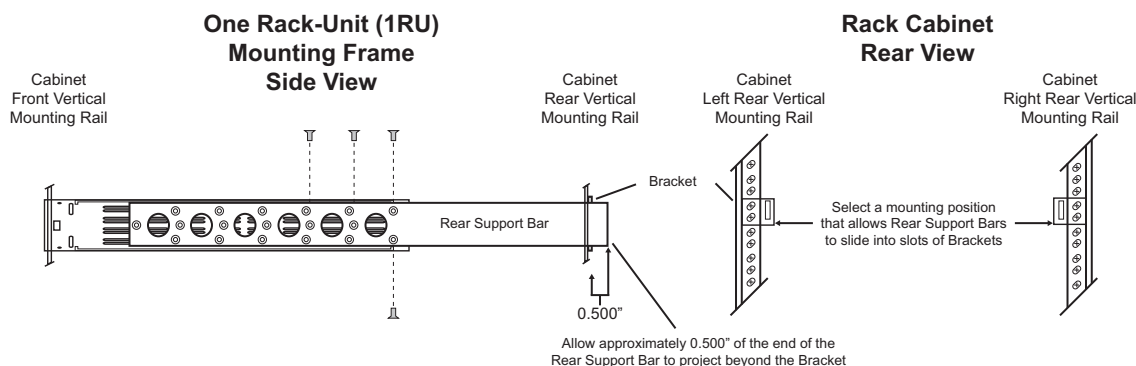

Figure 2.1 Installing the Support Brackets
In some cases, (mobile trucks, etc.) it may be desirable to also support the rear of the SRG-4400. The rear support bars can be attached to the SRG-4400 in six possible positions. (**Figure 2.1**)
2. Using four screws per bracket, as shown in **Figure 2.1**, attach both bars.